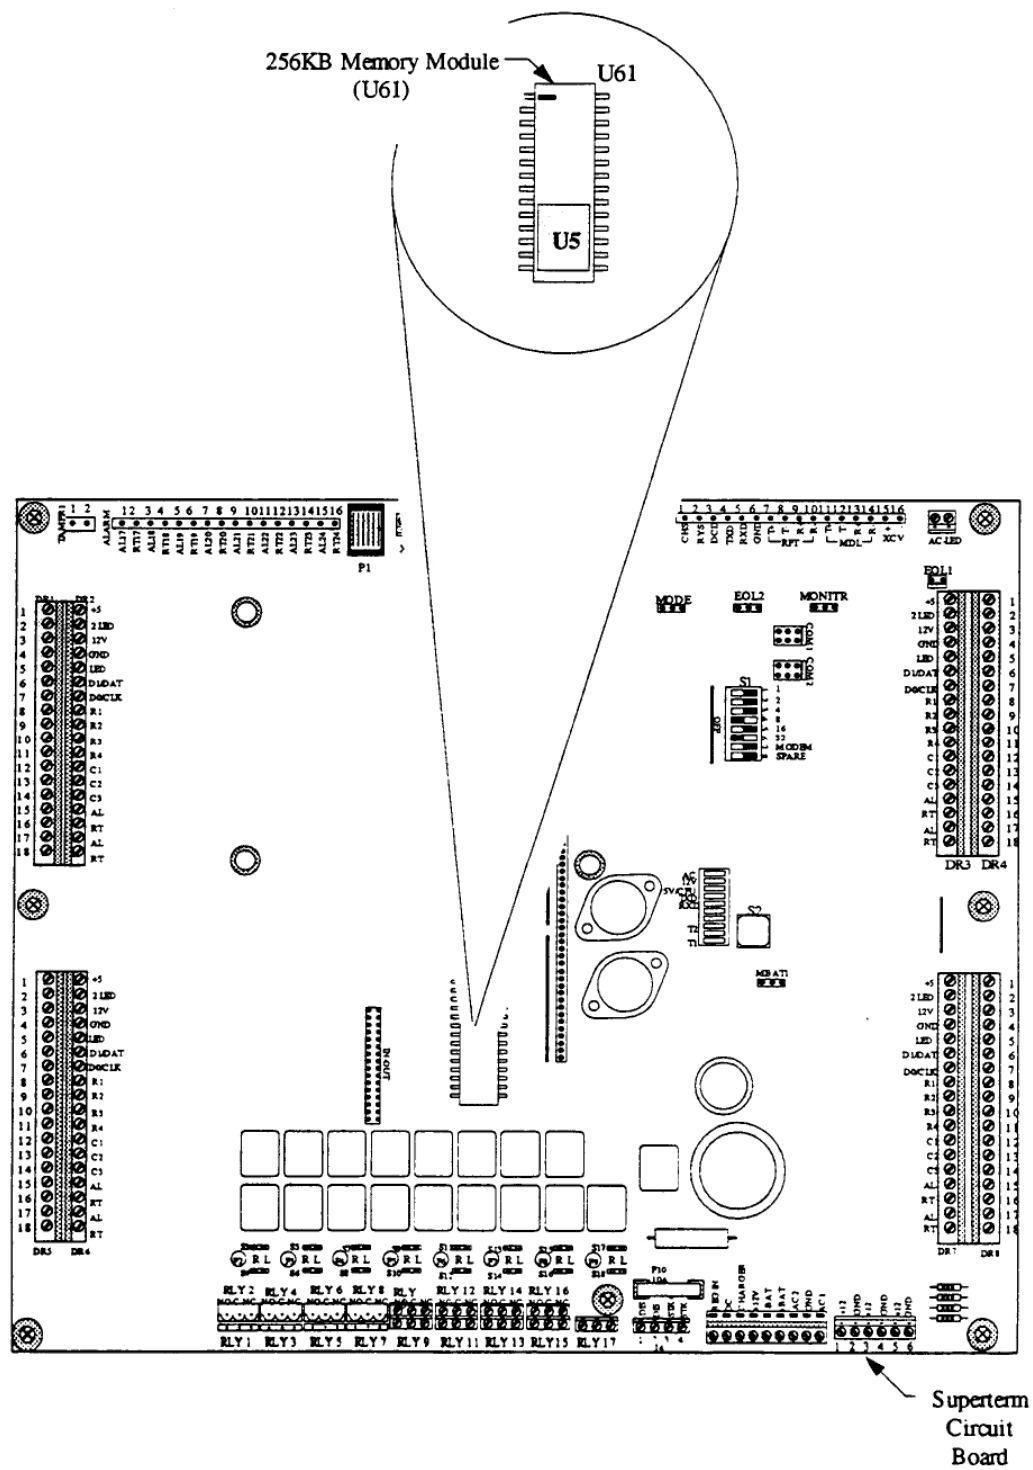

Figure 53 - 256K Memory Upgrade Installation
The 256K memory upgrade requires replacing the existing Superterm standard memory module (labeled U61 on the Superterm circuit board). The U61 memory module is located in the center of the Superterm circuit board (see Figure 53).
- 3) Using an IC extractor, carefully lift the standard memory module (U61) from its socket on the Superterm circuit board and place in a safe location for future use (see Figure 53).